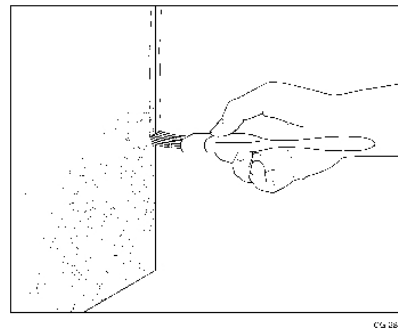

Figure 1. Applying Edge Sealer
6. Pull the dauber or brush along the edge in a smooth, continuous motion. Make sure the entire edge is covered with no gaps. See Figure 1.